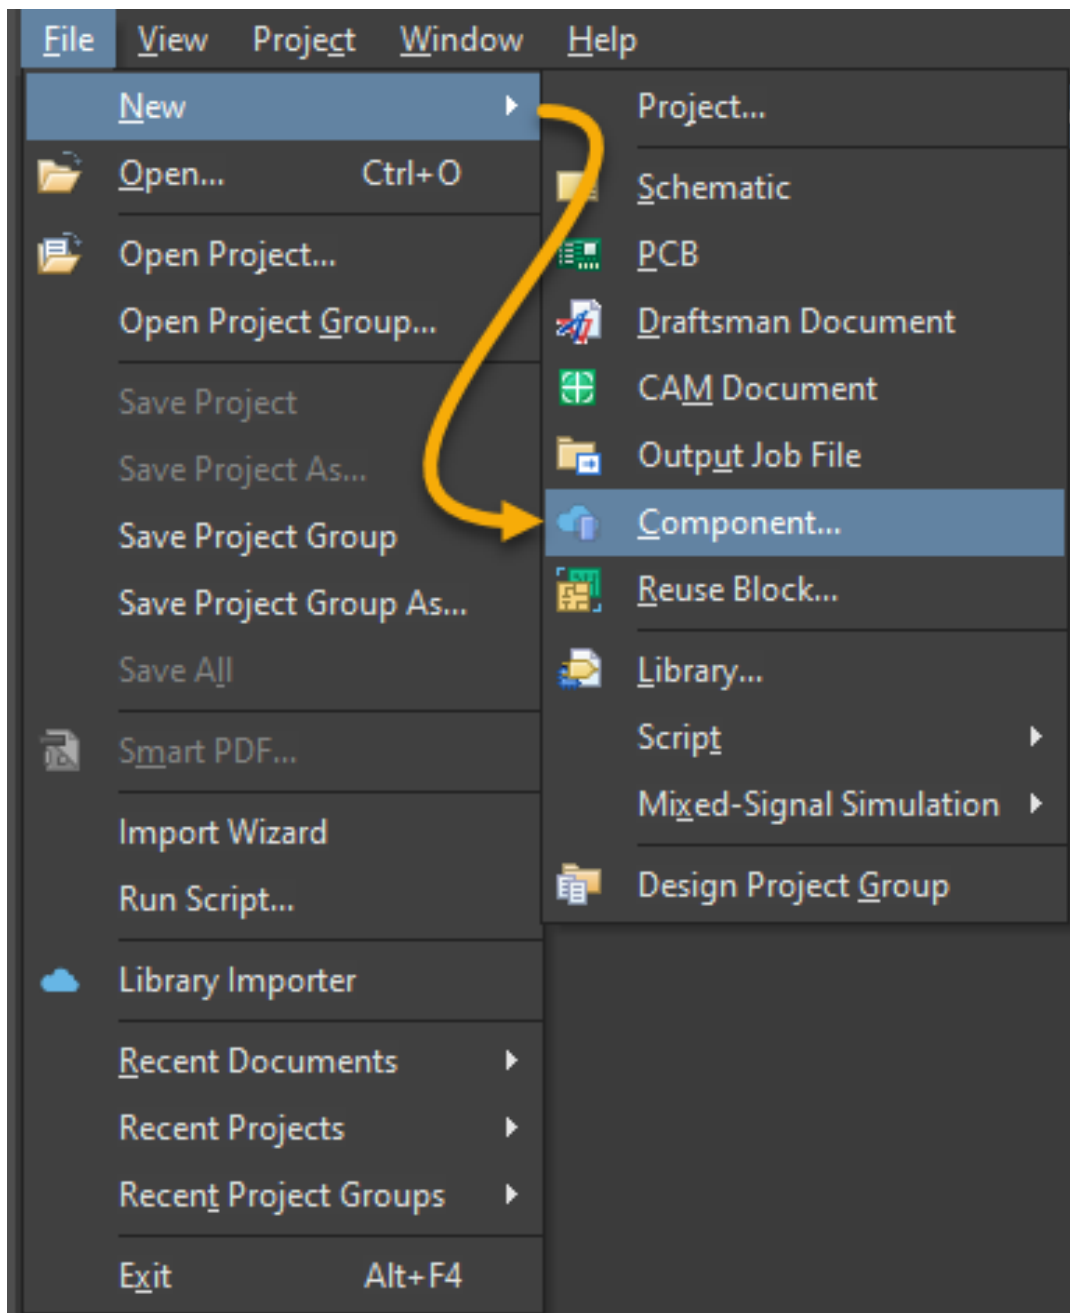

Figure 1. New Component Creation
2. For the first method, select the **File » New » Component...** command from the main menu, see Figure 1 below. A new dialog *Create new component* will open. The next action is described in Step 0.